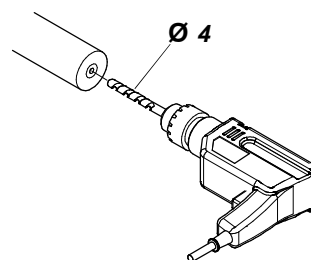

Fig. 28
- Drill a $\varnothing 4$ preliminary hole on bot ends, as central as possible. fig. 28.